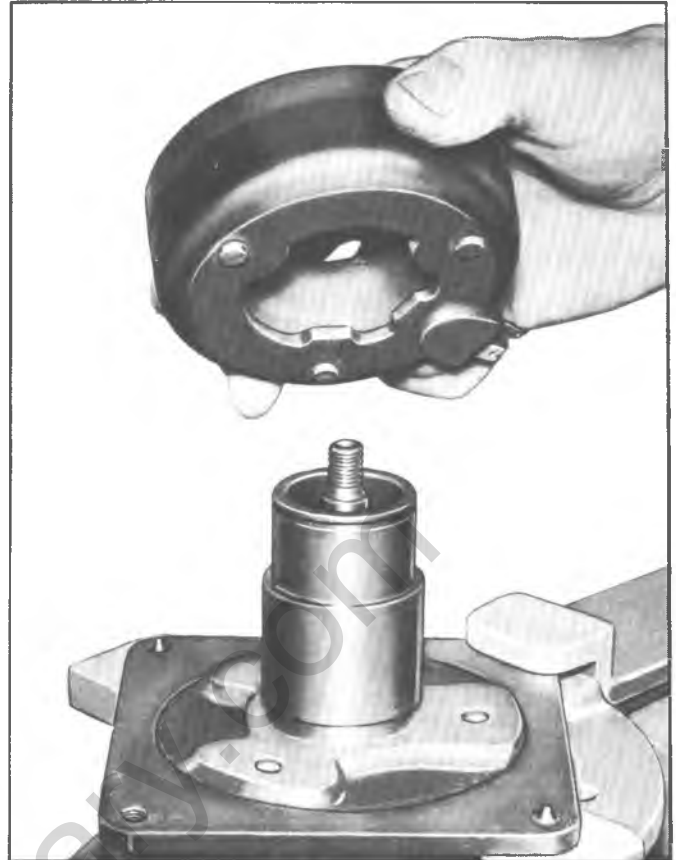

Fig. 9-Installing Coil Housing
1. Rotate the coil housing to the correct position as indicated by the scribe marks and the location of the electrical terminals and fit into place (fig. 9).